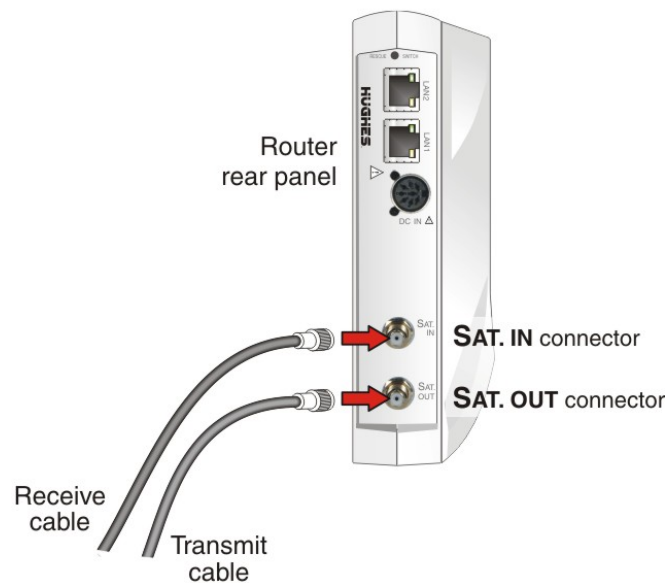

Figure 5: Connecting the transmit and receive cables to the router
1. Connect the transmit and receive cables to the connectors on the rear panel of the router as shown in *Figure 5: Connecting the transmit and receive cables to the router* on page 17.